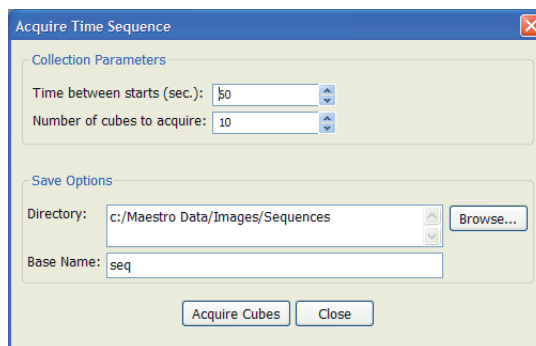

Figure 41. Acquire Time Sequence
1. Select **Tools > Acquire Time Sequence**. The **Acquire Time Sequence** dialog box opens (Figure 41).